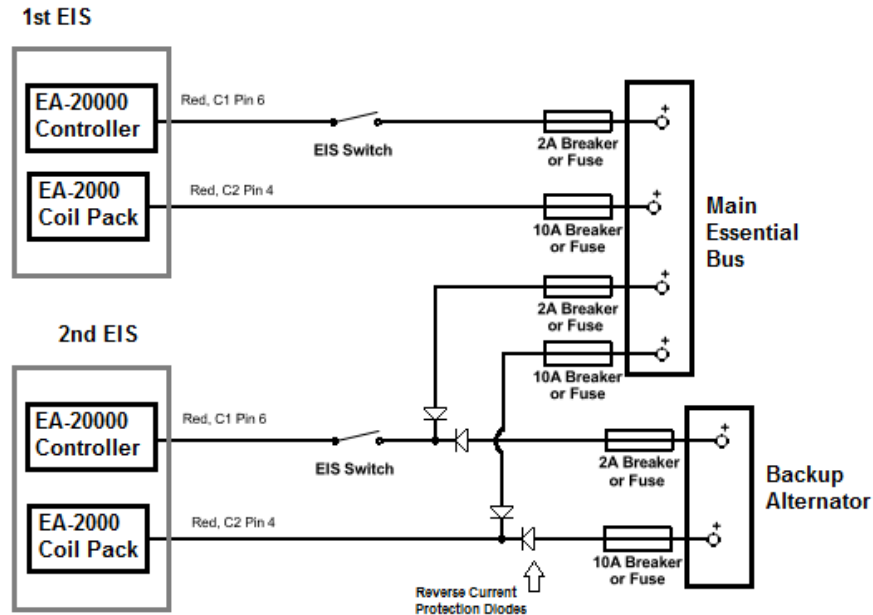

Figure 22: Single Engine, Dual EIS Backup Alternator Connections
- 3.) **Dual EIS Installation with Back-up Alternator:** Connect a panel mounted switch to a 2-amp breaker or fuse. For one EIS kit, connect that 2-amp breaker or fuse to the Essential Bus Bar. For the other EIS, connect the panel mounted switch to two separate current protection diodes. Current will need to flow into the EIS and not the other direction. From one of the diodes, connect to a 2-amp breaker or fuse and then to the essential bus bar. Connect the other diode to another 2-amp breaker or fuse and then to the back-up alternator. **Note:** Keep track of what power source is connected to each EIS. See Figure 22.
- 3.) **Dual EIS installation with Back-up Alternator:** For one coil pack, route the unterminated end of the Red wire from the harness through a 10-amp breaker (fuses may be used as an alternative to the breaker) to the same essential bus that the controller in the same EIS kit is connected too. Trim and terminate as required. For the other coil pack, route the unterminated end of the Red wire from the harness to two separate current protection diodes. Current will need to flow into the coil pack and not the other direction. From one of the diodes, connect to a 10-amp breaker or fuse and then to the essential bus bar. Connect the other diode to another 10-amp breaker or fuse and then to the back-up alternator. Trim and terminate as required. **Note:** This coil pack that is connected to the backup alternator should be in the same EIS kit as the controller that is connected to the back-up alternator. See Figure 22.
- iii. **Dual EIS installation using a backup alternator:** Connect C2-Pin 4 and C1-Pin 6 of one EIS to the main essential bus (through 10A and 2A breaker or fuses). Connect C2-Pin 4 and C1-Pin 6 of the 2nd EIS to the backup alternator and essential bus using current protection diodes (through 10A and 2A breaker or fuses). Figure 22